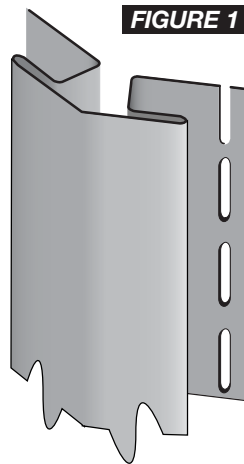

FIGURE 1
- Cut bay window cornerpost to the proper length (figure 1).